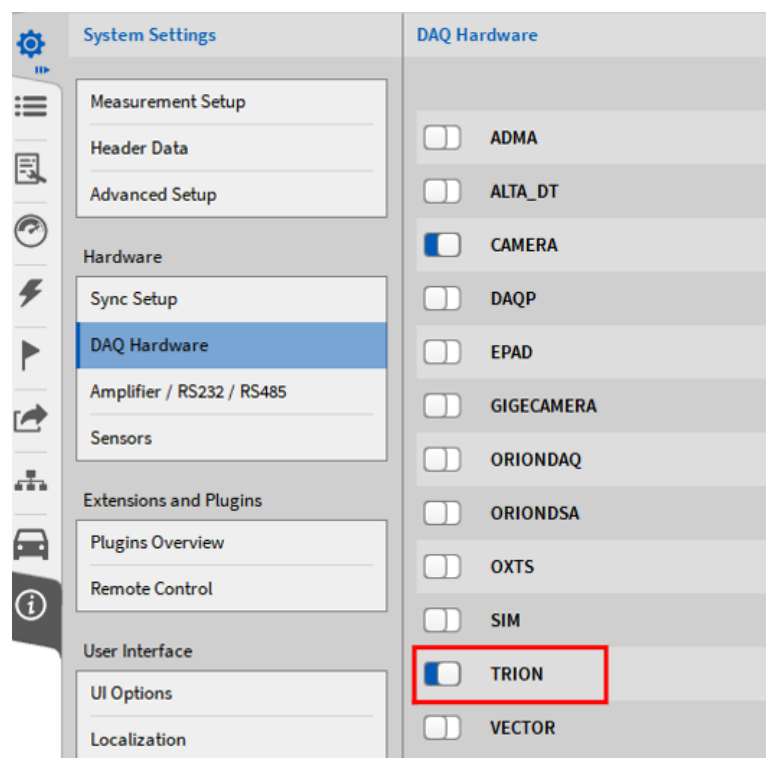

Fig. 4.1: Enabling the TRION Series in the DAQ Hardware setup
- Go to the *DAQ Hardware* setup in the *System Settings* and make sure that the *TRION Series* is enabled (see Fig. 4.1). Changes take effect on application restart.